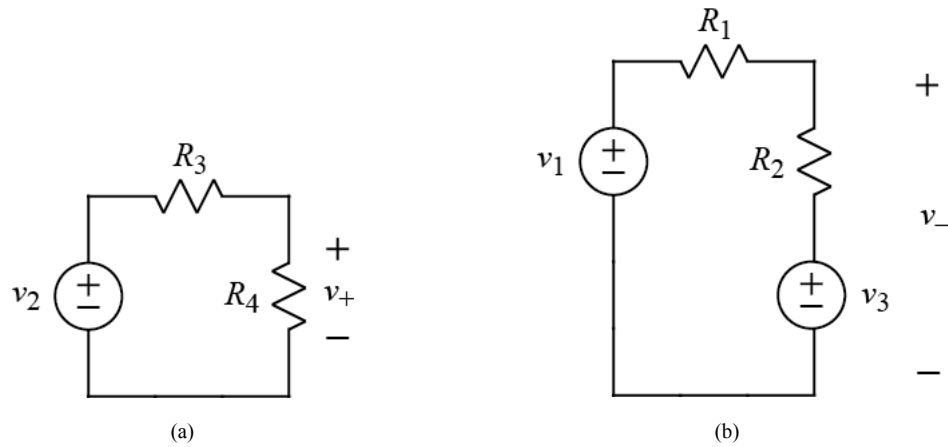

Figure 5. Sub circuits for analyzing differential amplifier: (a) v_+ value, (b) v_- value.
- 1) Use the circuit model in Fig. 5(a) and the voltage-divider formula to find voltage drop v_+ across R_4 .
- 2) Use the circuit model in Fig. 5(b) and Kirchhoff's and Ohm's law to find voltage drop v_- across R_2 and v_3 . In other words, v_- is the sum of the voltage drops across R_2 and v_3 .